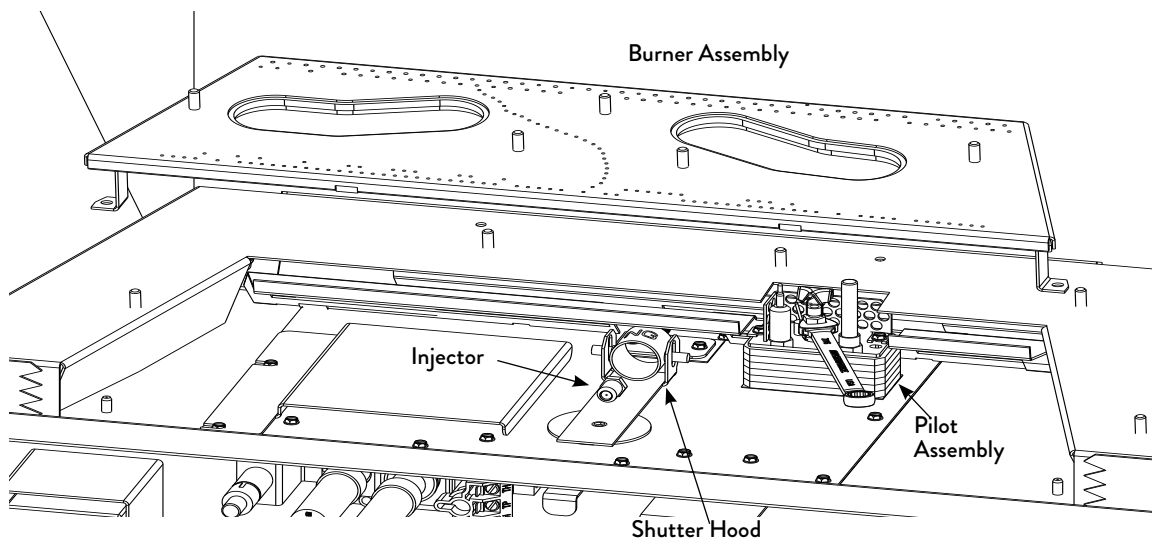

Figure 7.4. Burner and injector removal.
3. REMOVE THE BURNER - Fig. 7.4
4. CHANGE THE BURNER INJECTOR: Use a 1/2" or 13 mm open-end wrench or deep-well socket to remove the original burner injector from the brass fitting at the rear of the firebox. See fig. 7.4. Install the injector from the conversion kit and tighten .